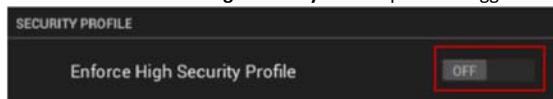

FIG. 99 SECURITY PROFILE
1. Press the **Enforce High Security Mode** option to toggle it from ON to OFF (FIG. 99):